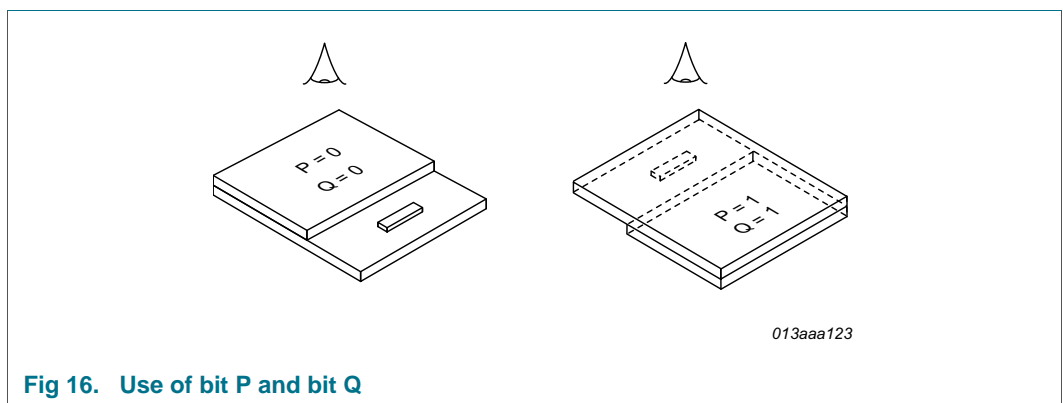

Fig 16. Use of bit P and bit Q
**Combination of bit P and bit Q:** A combination of P and Q allows the display to be rotated horizontally and vertically by 180 degree, as shown in Figure 16. This is useful for viewing the display from the opposite edge.